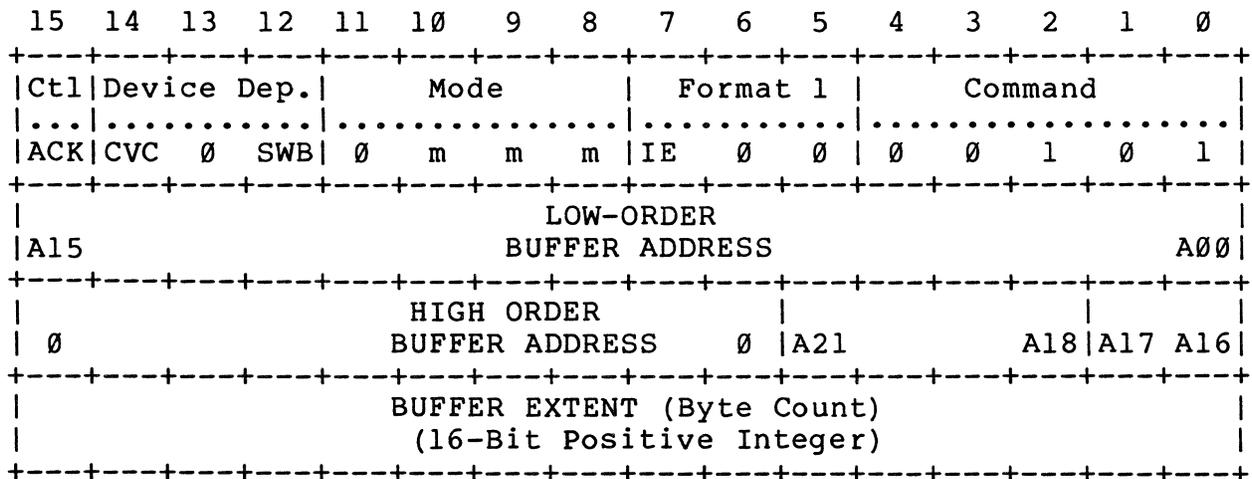

Figure 3-23 Write Command Packet
3.3.4.5 Write Command -- Figure 3-23 illustrates the command packet for a Write. There are two normal modes of operation: Write Data and Write Data Retry.